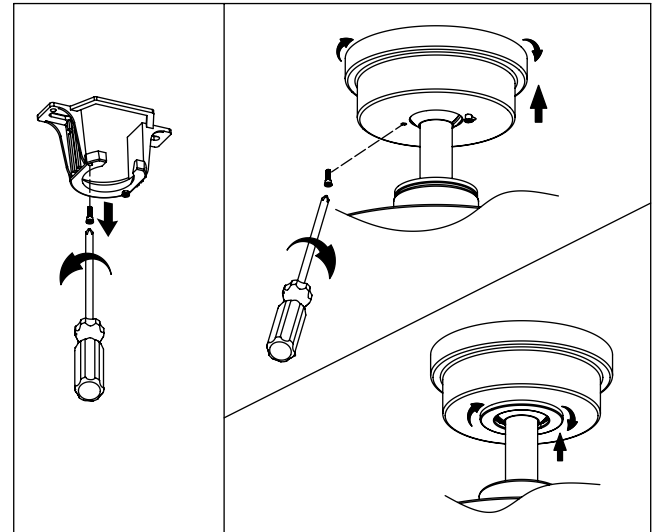

Fig. 18
Step 1. Remove one of the two shoulder screws in the mounting bracket. Loosen the second shoulder screw without fully removing it. (Fig. 18)
Step 2. Assemble canopy by rotating key slot in canopy over shoulder screw in mounting bracket. Reinstall the shoulder screw that was previously removed, then retighten two shoulder screws securely. (Fig. 18)
Step 3. Securely attach and tighten the canopy hole cover over the shoulder screws in the mounting bracket utilizing the keyslot twist-lock feature.(Fig.18)